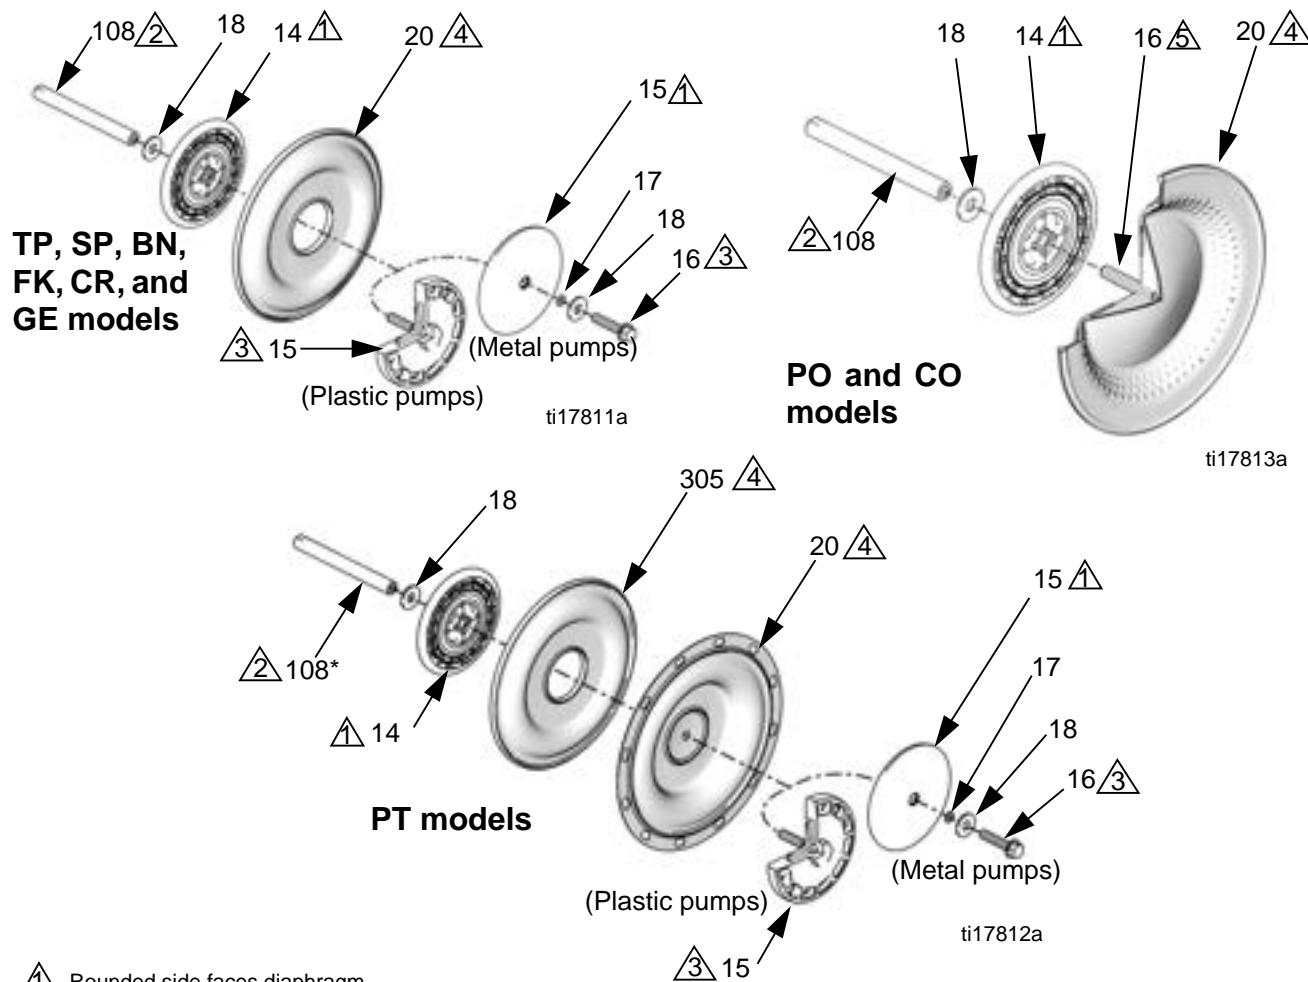

FIG. 7. Assemble diaphragms
- a. Orient the pump so one of the fluid covers faces up. Use a 3/4 in. (19 mm) socket wrench to remove the fluid cover bolts (36, 37), then pull the fluid cover (2) up off the pump.
- b. The exposed diaphragm (20) will screw off by hand. The shaft will either release and come off with this diaphragm, or remain attached to the other diaphragm. If the diaphragm shaft bolt (16) remains attached to the shaft (108), remove it. Remove the air side diaphragm plate (14) and washer (18).
- d. If the shaft is still attached to either diaphragm, grasp the diaphragm firmly and use a wrench on the flats of the shaft to remove. Also remove the air side diaphragm plate (14) and washer (18). Continue with Step 5.
- a. Orient the pump so one of the fluid covers faces up. Use a 3/4 in. (19 mm) socket wrench to remove the fluid cover screws (36, 37), then pull the fluid cover (2) up off the pump. Turn the pump over and remove the other fluid cover.
- b. **Plastic Pumps:** Hold the hex of one fluid side diaphragm plate (15) with a 1-5/8 socket or box end wrench. Use another wrench (same size) on the hex of the other plate to remove. Then remove all parts of the diaphragm assembly. See FIG. 7.
Metal Pumps: Turn the pump on its side. Hold one diaphragm shaft bolt (16) with a wrench, then use a 15/16 socket to remove the other bolt. Remove all parts of the diaphragm assembly. See FIG. 7, page 17.
5. Use an o-ring pick to remove the u-cup packings (101) from the center housing. Bearings (109) can remain in place.
6. If necessary, remove the pilot valves (110).
Follow all notes in FIG. 7. These notes contain important information.
3. For metal pumps, install the washer (18) and o-ring (17) on the shaft bolt (16).
4. Assemble the fluid side plate (15), the diaphragm (20), the backup diaphragm (305), the air side diaphragm plate (14), and the washer (18) on the bolt exactly as shown in FIG. 7.
5. Apply medium-strength (blue) thread locker to the bolt (16) threads. Assemble into shaft. Torque the bolt to 110 -120 ft-lb (149-163 N•m) at 100 rpm maximum.
8. Apply medium-strength (blue) thread locker to the bolt (16) threads. Screw the bolt into the shaft hand tight.
1. Install the washer (18) and o-ring (17) on the shaft bolt (16).
2. Assemble the fluid side plate (15), the diaphragm (20), the air side diaphragm plate (14), and the washer (18) on the bolt exactly as shown in FIG. 7.
3. Apply medium-strength (blue) thread locker to the bolt (16) threads. Screw the bolt into the shaft hand tight.
7. Reattach one fluid cover (2). Arrow (A) must point toward the air valve. See **Torque Instructions**, page 20.
- CR, BN, and FK Models:** Reattach the second fluid cover (2). Arrow (A) must point toward the air valve. See **Torque Instructions**, page 20.
1. Assemble the diaphragm (20), the air side diaphragm plate (14), and the washer (18) on the fluid side plate (15) exactly as shown in FIG. 7.
6. Reattach one fluid cover (2). Arrow (A) must point toward the air valve. See **Torque Instructions**, page 20.